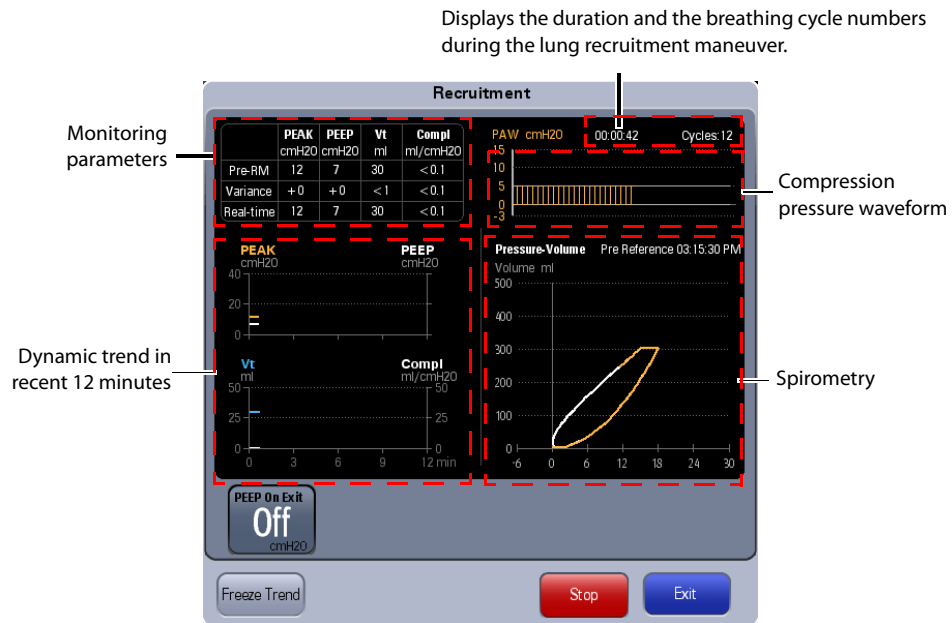

FIGURE 5-23 Lung Recruitment Maneuver (Multi-Step Recruitment)
3. Select **Start** softkey, and the lung recruitment maneuver starts according to the current procedure (see FIGURE 5-23). **RM** is displayed in the current ventilation mode area.